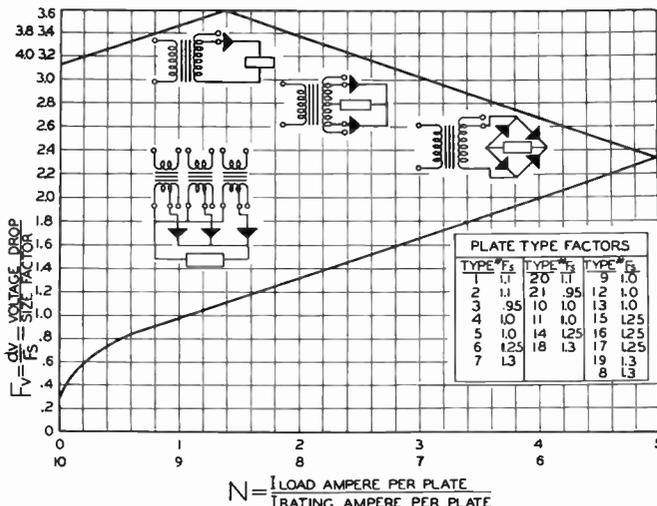
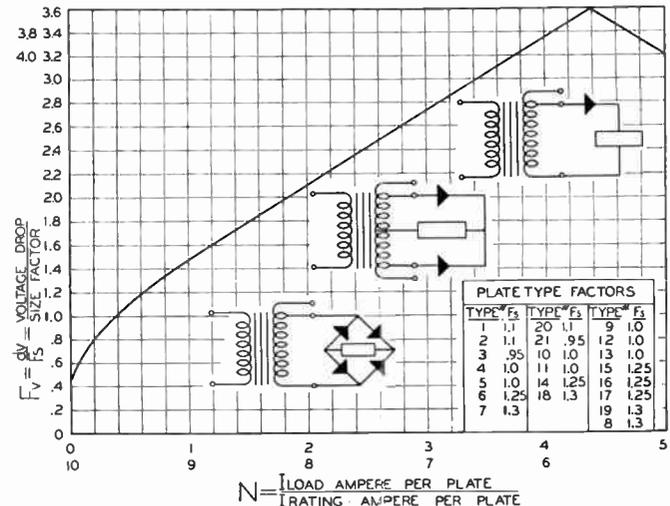
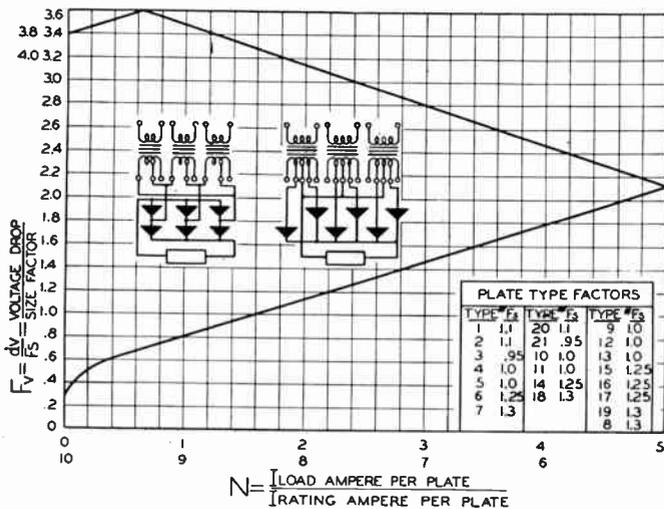

FIG. 6. CHARACTERISTIC SHOWING RELATION OF  $F_v$  AND  $N$  FOR VARIOUS RECTIFIER CIRCUITS AND TYPES OF LOADS
FIG. 7. SHOWING  $F_v$  AND  $N$  IN RECTIFIER CIRCUITS FOR BATTERY-CHARGING APPLICATION OR CONDENSER LOADS
FIG. 8. RELATION OF  $F_v$  AND  $N$  FOR 3-PHASE, CENTER TAP, AND BRIDGE RECTIFIER CIRCUITS FOR ALL TYPES OF LOADS
method for rating the 21 rectifier types according to relative values of output current and voltage drop per plate has been developed. Figs. 6, 7, 8, and 9 illustrate the relationships  $N$  and  $F_v$  for various types of circuits and loads.
From Fig. 8,  $F_v = 1.07$  and  $dv = 1.07 \times 1 = 1.07$ .
Fig. 6 illustrates the relationship of  $F_v$  to the value  $N$  for half-wave, center tap and bridge, single phase circuits when loaded with either resistive or inductive load; also for half-wave, three-phase circuits for all types of loads. Fig. 7 gives a similar relationship of  $F_v$  to the value  $N$  for half-wave, center tap and bridge circuits, all single-phase for capacitive or battery charging applications. Fig. 8 shows the relationship of  $F_v$  to  $N$  for three-phase bridge and center tap circuits for all
from the characteristic of Fig. 8,
from the characteristic of Fig. 6,
0.4 ampere, with 2.4 volts per cell, plate No. 4 may be selected. The value of  $N$  is .67. The new  $dv$ , as read off the characteristic of Fig. 7, is 1.25 and, after aging, it becomes 1.87. The number of plates in series is determined either by